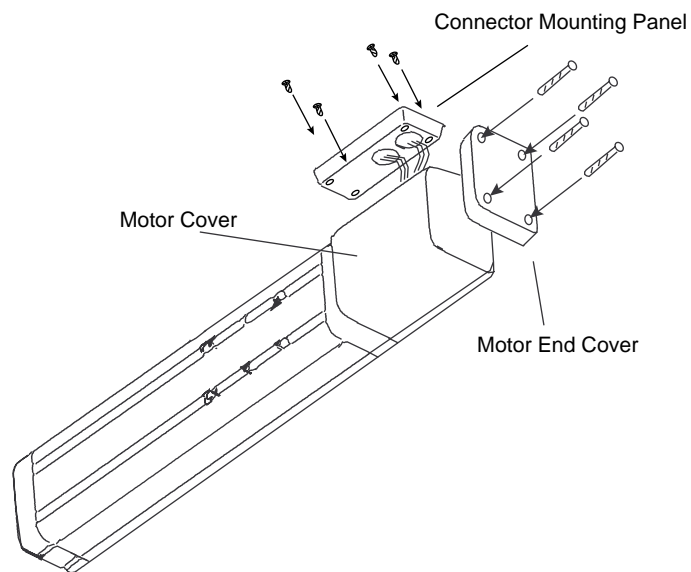

Figure C-5. Attaching Motor Cover and Connector Cover Panel
6. Attach the motor cover and the motor end cover to the module with the four long screws as shown in figure Figure C-5).
7. Attach the connector mounting panel to the motor cover using the four shorter screws as shown in figure Figure C-5).